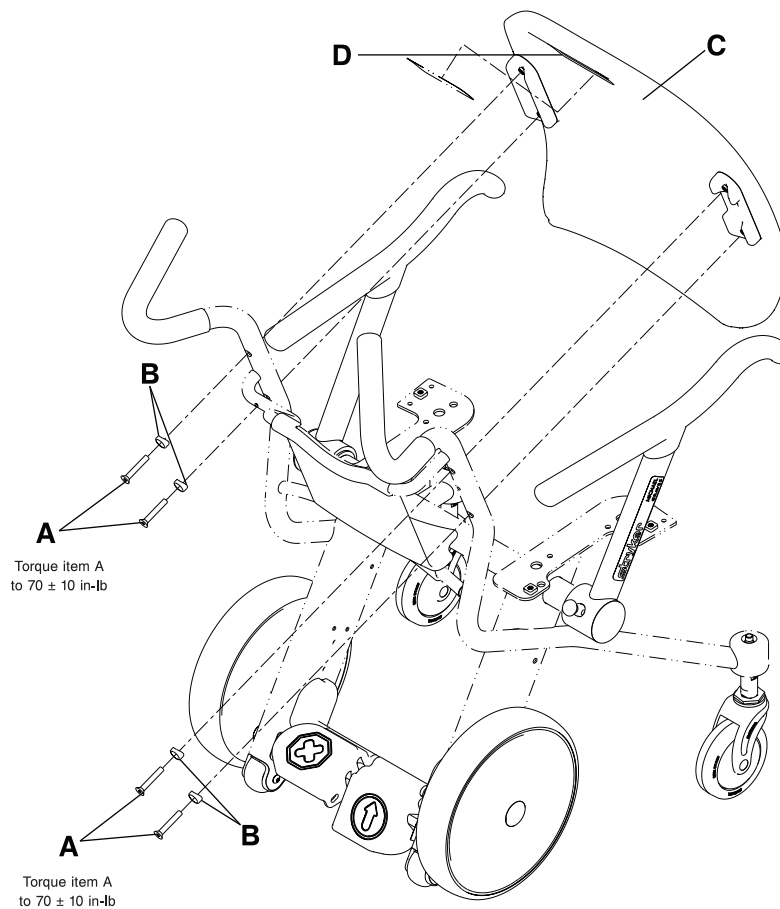

Figure 1-21: Seat back replacement
2. Using a 3/16" hex wrench, remove the four flat head cap screws (A) and adaptors (B) to remove the seat back (C) from the chair frame. Discard the screws, adaptors, and seat back (Figure 1-21 on page 1-37).
3. Using a 3/16" hex wrench, install the four supplied flat head cap screws (A) and adaptors (B) to secure the supplied seat back (C) to the chair frame (Figure 1-21 on page 1-37). Using a 3/8" drive torque wrench, torque the screws to  $70 \pm 10$  in-lb.
4. Apply the supplied Stryker label (D) in the appropriate color.